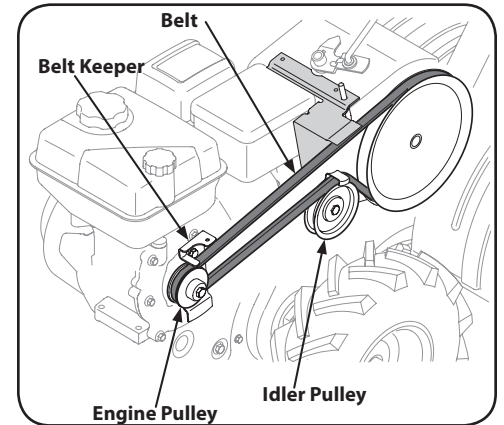

Figure 5-3
3. Remove the nut and washer from the front side of the belt cover. Remove the hex head screw at the back of the cover. See Figure 5-3.
4. Remove the belt keeper assembly located behind the engine pulley by removing the two hex bolts and lock washers. See Figure 5-3.
5. Remove the idler pulley by removing the bolt and nut. See Figure 5-3.
6. Remove the old belt and install the new belt. Follow the instructions in reverse order to re-install the belt keeper and belt cover. See Figure 5-3.